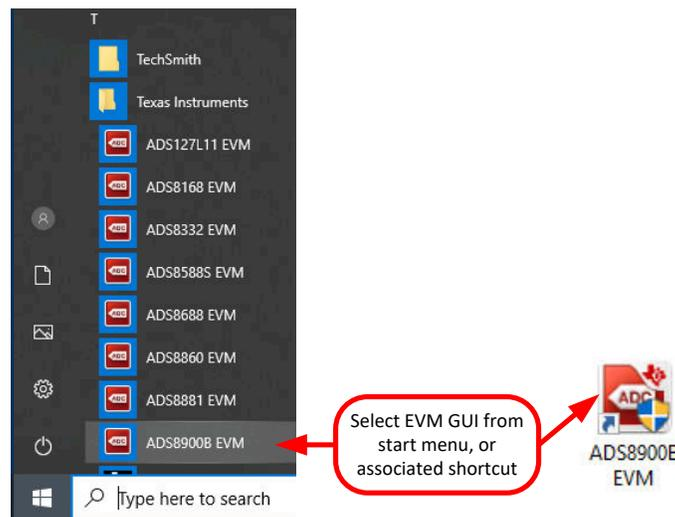

Figure 6-2. Launch the EVM GUI Software
3. Start the software GUI as shown in Figure 6-2. Notice that the LEDs blink slowly when the FPGA firmware is loaded on the PHI. This process takes a few seconds and then the AVDD and DVDD power supplies turn on.